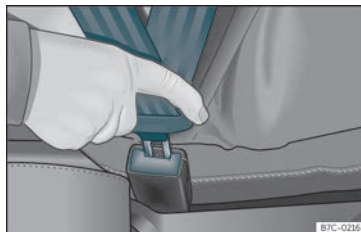

Fig. 9 Insert the latch plate of the seat belt into the buckle.
- Engage the latch plate in the buckle of the corresponding seat >>> **Fig. 9.**